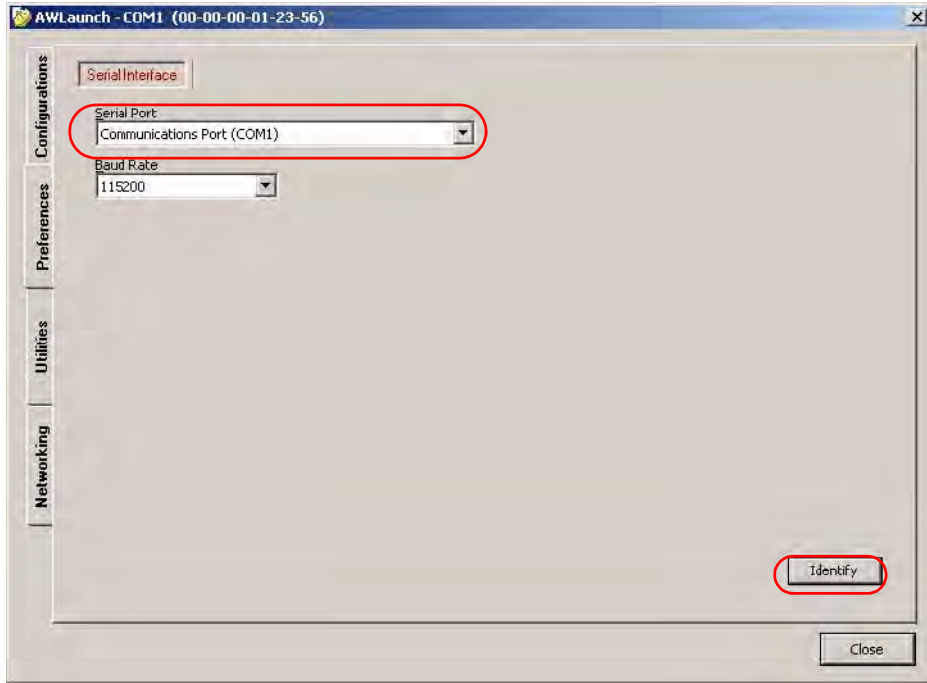

Figure 2-5. Connect to AWLaunch
4. Open the *Preferences* tab and select the port (COM, USB, virtual COM for Bluetooth) the modem is connected to (Figure 2-5), and click *Identify*.